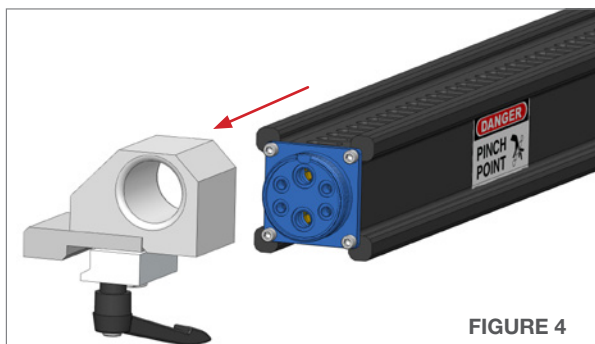
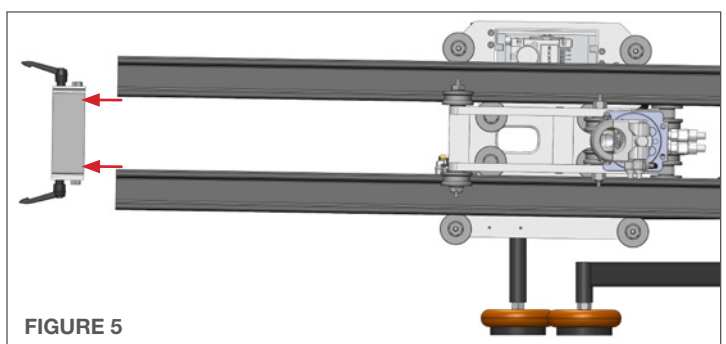

FIGURE 4
FIGURE 5
4. Remove the Rear Rail Stop **(Figure 4)** from the Horizontal Rail and the Tie Rail Stop from the Vertical Rails. **(Figure 5)**